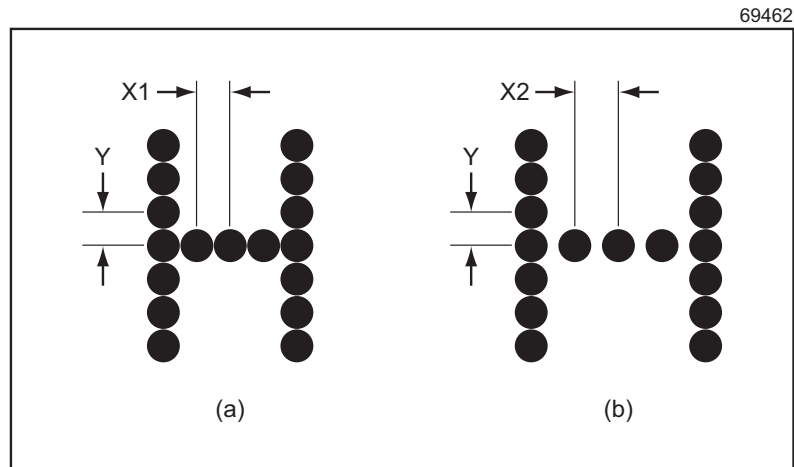

Figure 8. Raster Pitch
The effect of raster pitch is shown in Figure 8.
In Figure 8 (a) the letter 'H' is printed at the Ideal Raster Pitch—the horizontal spacing ($X1$) is equal to the vertical spacing (Y). In Figure 8 (b), the raster pitch is larger than the Ideal Raster Pitch—the horizontal spacing ($X2$) is larger than the vertical spacing (Y).